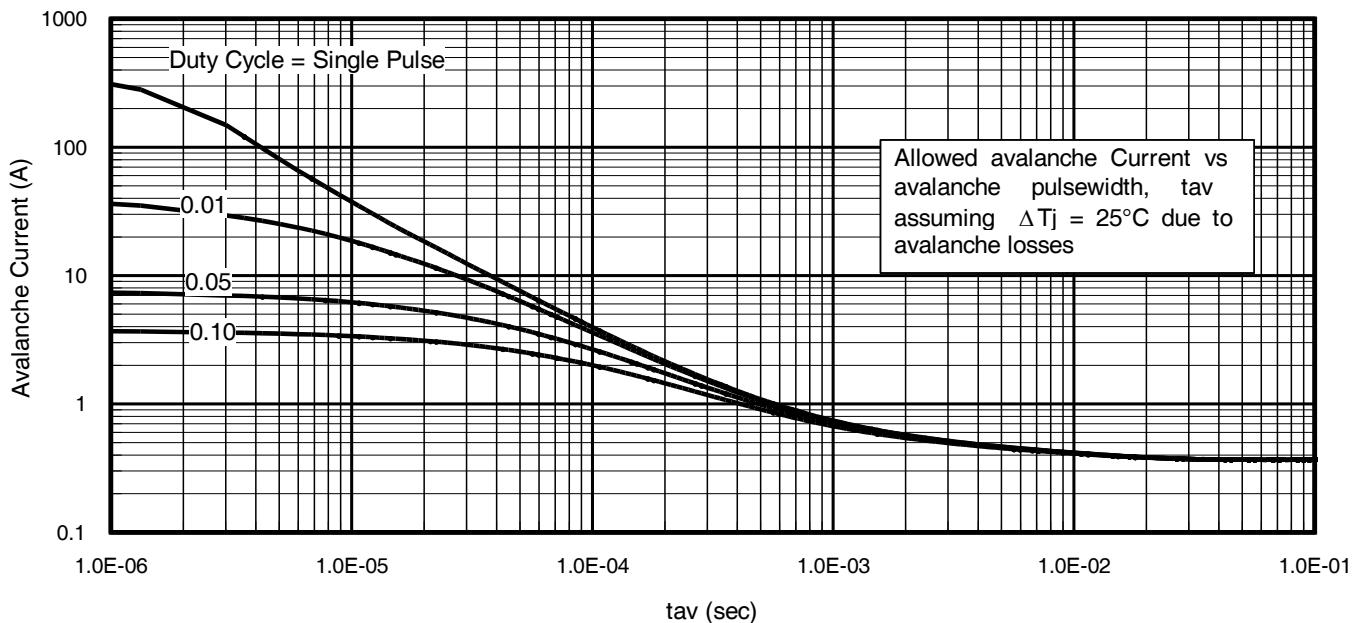

Fig 15. Typical Avalanche Current vs. Pulse width
Notes on Repetitive Avalanche Curves , Figures 15, 16: (For further info, see AN-1005 at www.infineon.com)
7. ΔT = Allowable rise in junction temperature, not to exceed $T_{j\max}$ (assumed as 25°C in Figure 15, 16).